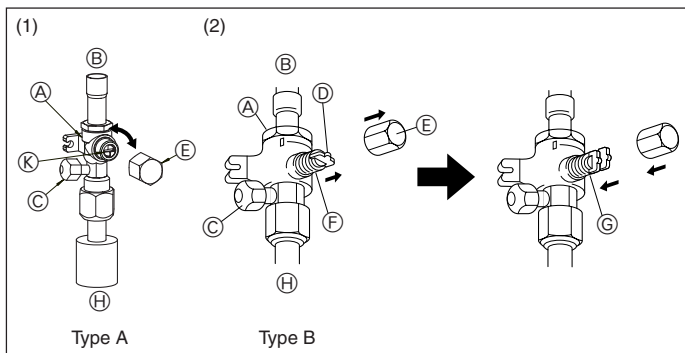
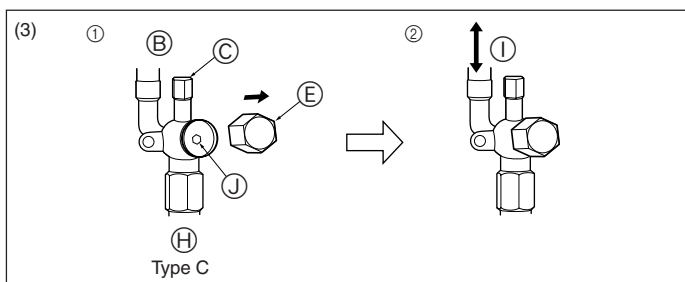

Fig. 4-6
Fig. 4-7
- (1) Type A (Fig. 4-6)
- ① Remove the cap, then turn one-quarter rotation counter-clockwise with a flat-bladed screwdriver to complete open.
- ② Check that the valves are fully open, then return the cap to its original state and tighten it down.
- (2) Type B (Fig. 4-6)
- ① Remove the cap, pull the handle toward you and rotate 1/4 turn in a counterclockwise direction to open.
- ② Make sure that the stop valve is open completely, push in the handle and rotate the cap back to its original position.
- (3) Type C (Fig. 4-7)
- ① Remove the cap and turn the valve rod counterclockwise as far as it will go with the use of a 4 mm hexagonal wrench. Stop turning when it hits the stopper.
- ② Make sure that the stop valve is open completely and rotate the cap back to its original position.
- ① Valve
② Unit side
③ Service port
④ Handle
⑤ Cap
⑥ Completely closed
⑦ Completely open
⑧ (On-side installation) Refrigerant piping side